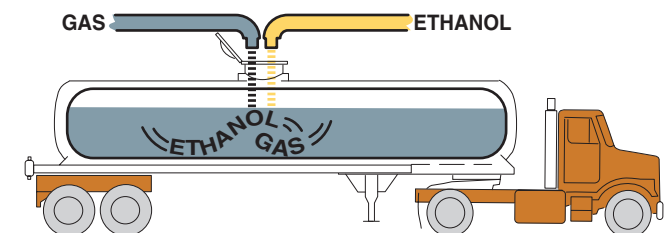

FIGURE 12-13 Sequential blending uses a computer to calculate the correct ratio as well as the prescribed order that the products are loaded.
2. **Sequential blending.** This method is usually performed at the wholesale terminal and involves adding a measured amount of ethanol to a tank truck followed by a measured amount of gasoline. ● **SEE FIGURE 12-13.**